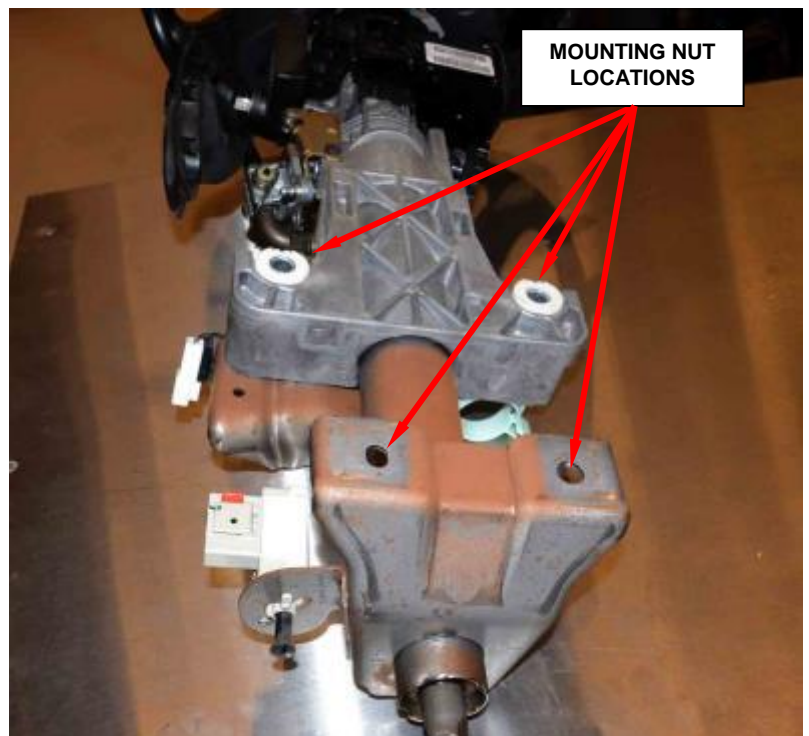

Figure 67 - Steering Column Mounting (Column Removed for Photographic Purposes)
16. Remove the four steering column mounting nuts (Figures 67 and 68).